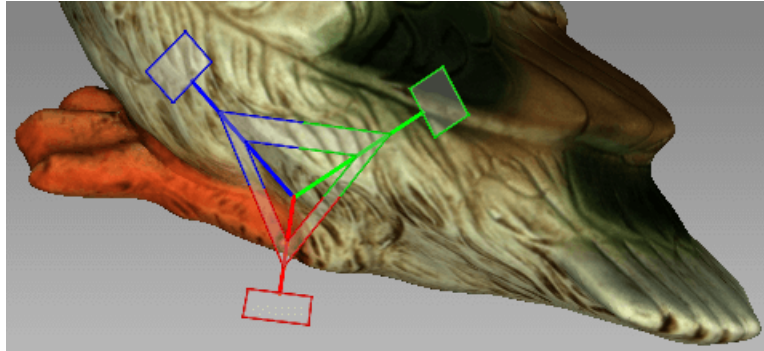

Figure 170: Scaling control
- Drag the origin of the control (Figure 170) or either of its round ends in the *3D View* window.